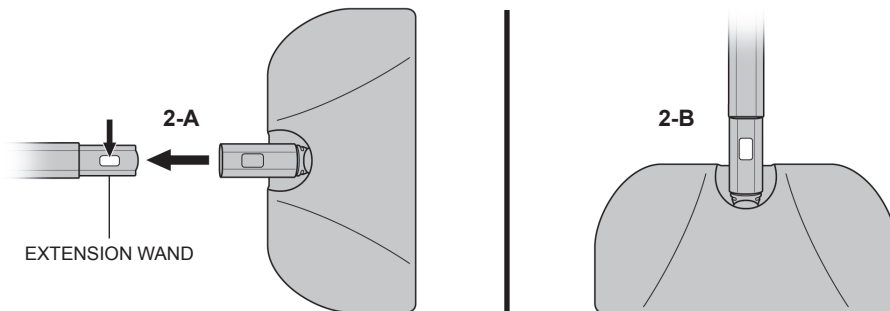

FIGURE 2
2. Press down on blue lock/release button. While continuing to hold button down, slide Mop Head neck onto Extension Wand (FIGURE 2-A). Press on firmly until button snaps through hole (FIGURE 2-B).